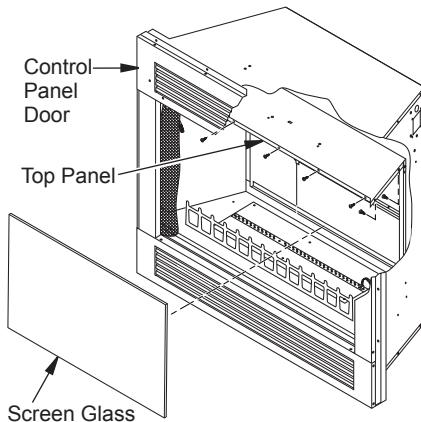

Figure 15 - Removing Screen Glass (all parts not shown for clarity)
5. Remove screws from back corners and front of top panel (see Figure 15). Remove top panel and set aside.